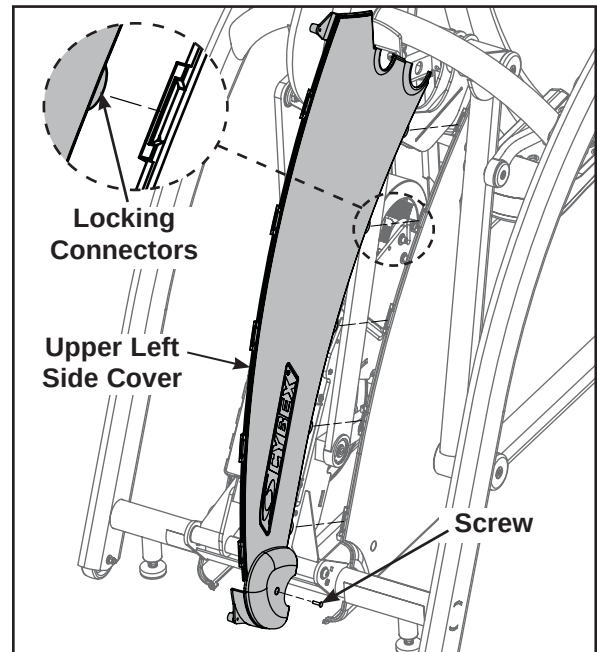

Figure 6
- A. Using a Phillips screwdriver, remove the screw securing each of the upper side covers. See Figure 6.